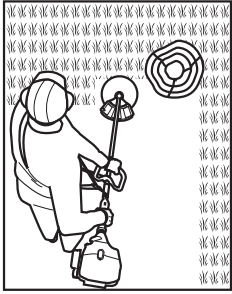

Fig. 17g
- 12. Pay special attention when performing the work close to trees and bushes. The cutting heads could damage sensitive bark, and damage fence posts. (See Fig. 17g)